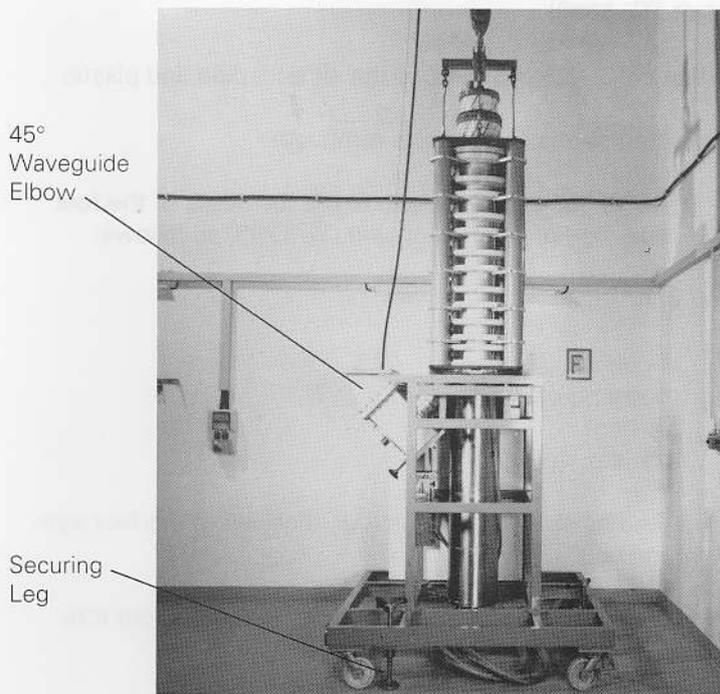

Fig. 38. The Focusing Coil Unit (TE 1266) in Position on the Klystron
- (t) Refit the 45° waveguide elbow (see Fig. 38) to the transition, using the 30 screws, washers and nuts, previously removed in paragraph 3.11.(c), (screws inside).
- (f) Carefully lower the focusing coil unit (TE 1266) over the klystron, ensuring that the guide pins underneath the focusing coil unit (TE 1266) fit into their respective locating holes in the klystron flange (Fig. 38).